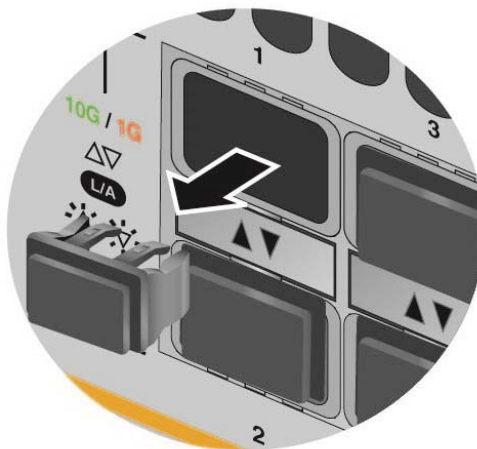

Figure 64. Removing the Dust Plug from an SFP Slot
2. If the slot has a dust cover, remove it. Refer to Figure 64.
1. If the slot has a dust cover, remove the cover. Refer to Figure 64 on page 112.